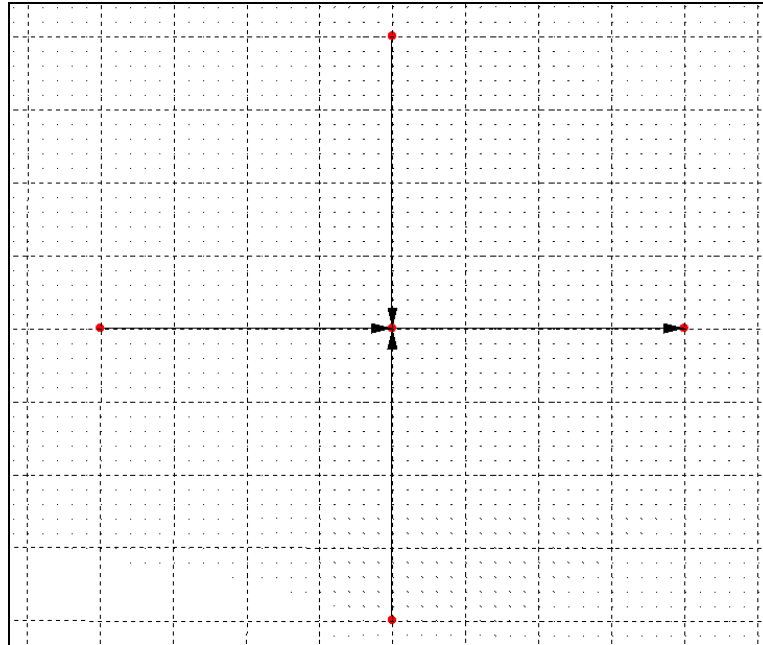

Figure 3 Pipe layout and flow direction
3. Using the  **Create Feature Arc** tool, create arcs from upstream to downstream, flowing from the left, top, and bottom points to the center point, then from the center point to the right point (Figure 3).
The arrows should appear as in Figure 3, indicating flow direction. Remember the rules of creating feature objects: Do not cross any arcs and make sure to click close enough the points in the model so the arcs snap to them.